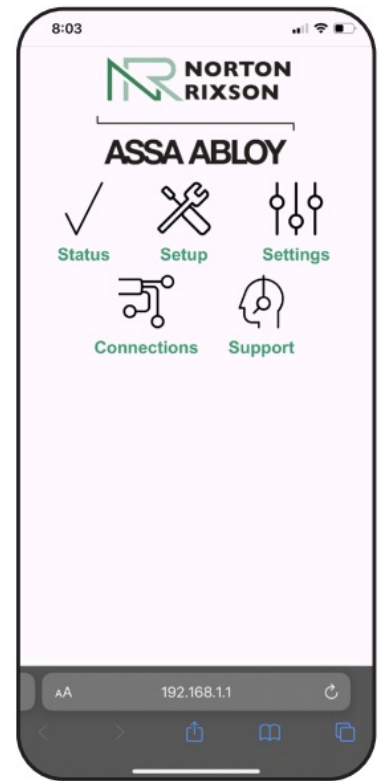

Figure 15
5. The 6200 Series Operator homepage is indication of a successful connection. (Figure 15)